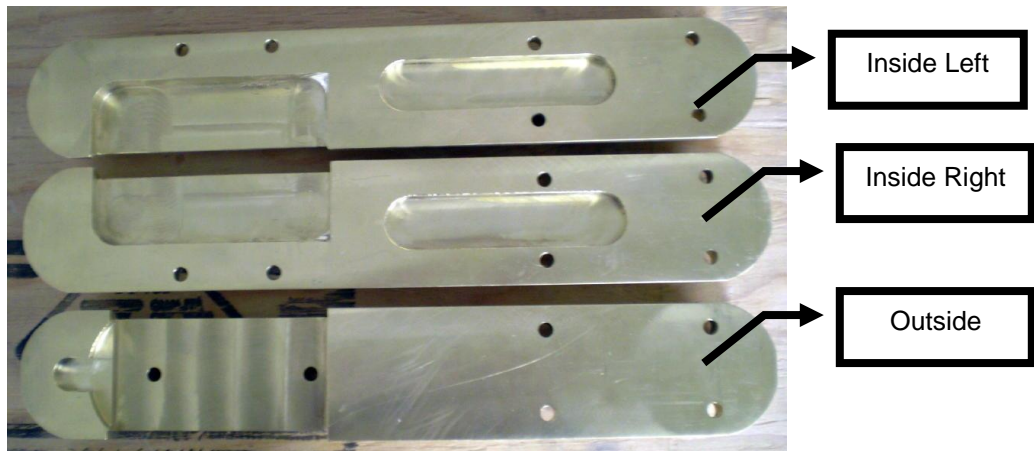

FIGURE 17: TRACK WEIGHTS
1. On the camera raise mechanism note the various hole positions for the locking screw. Remove the locking screws on both sides and raise the camera to the nominal pipe size indicated on the Camera Raise Indicator (Figure 17). Replace the locking screws.